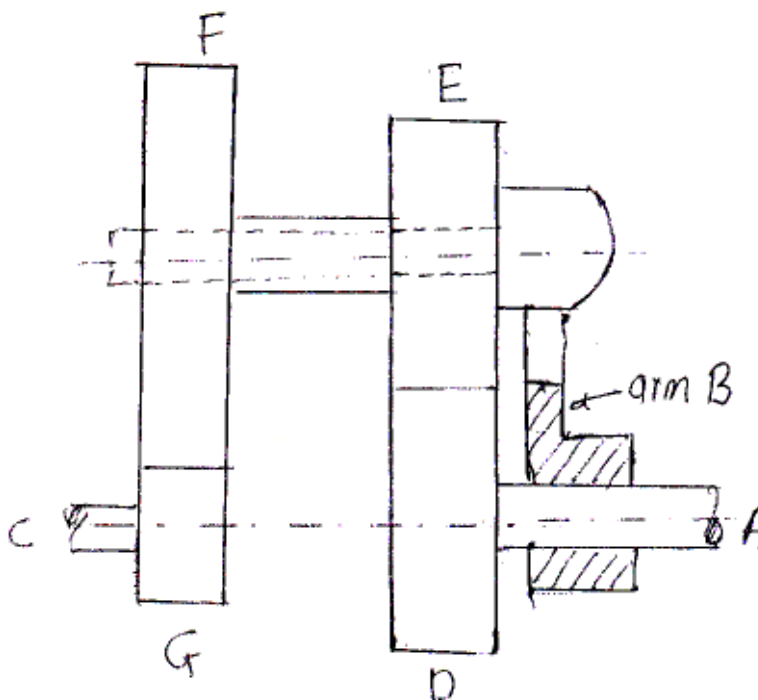

Fig. 1
- b) An epicyclic gear train is shown in fig. 1. Wheel D is held stationary by the shaft A. and arm B rotates at 200 rpm. The wheel E (20 teeth) and F (40 teeth) are fixed together and rotates freely on a pin carried by the arm. The G (30 teeth) is mounted on shaft C. Find the speed of the shaft C, stating the direction of rotation relative to that of B. If the gearing transmits 7.5 kW. What will be the holding torque on shaft A. Neglect all frictional losses. 10